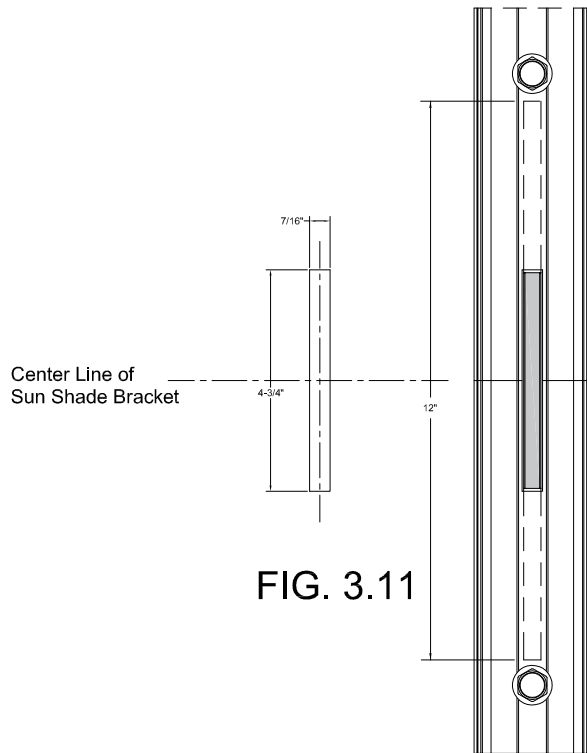

FIG. 3.11
- 3) A 7/16" wide x 4-3/4" tall clearance slot is required in the pressure plate at sun shade bracket location. (either slot in continuous pressure plate or or split pressure plate as shown FIG. 3.11)